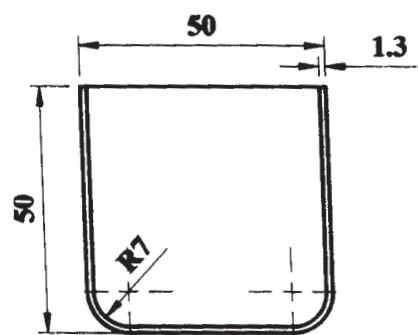

Fig. 2: Drawing component
- Q3)** a) Find out the blank size by graphical method for drawn component shown in fig.2. And the number of draws required. [6]
- Q4)** a) Calculate the blank size and number of draws required for the drawn component in fig.2. [4]